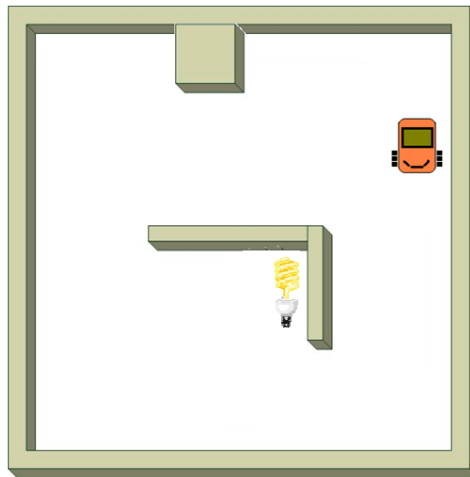

Figure 2: Robot homing
3. Based upon the above model, write code to home the CEENBoT robot to the light source (see Figure 2). The robot should come within one foot of the beacon without touching it.